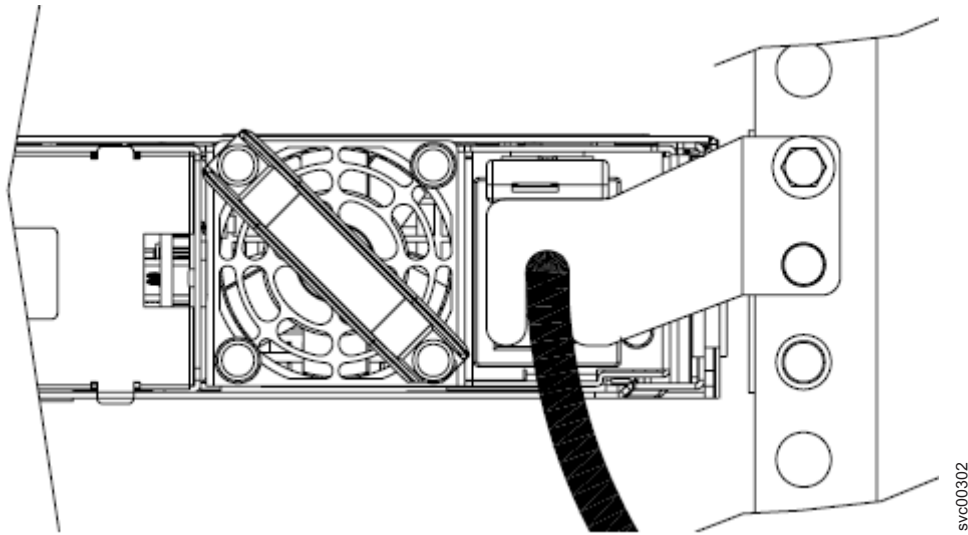

Figure 31. The SAN Volume Controller 2145-8G4 with cable-retention bracket type B attached
2. At the back of the cabinet, remove the securing bolt from the node side rail next to the power supply, as shown in Figure 31.